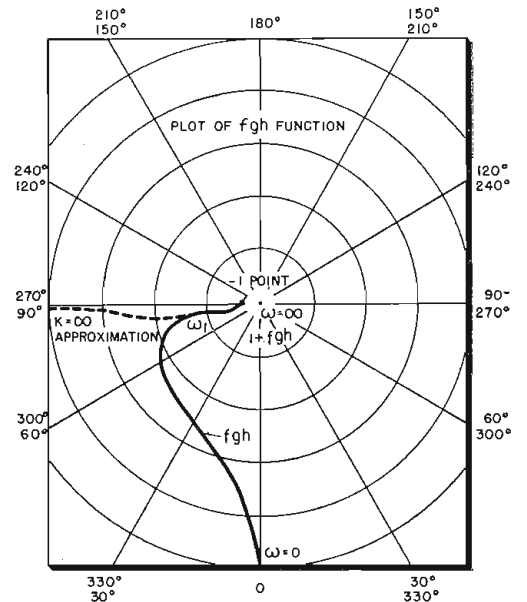

Fig. 10: Open-circuit loop characteristics
The analysis described is completely analytic, although the steady-state frequency response and error response may be determined graphically. The fgh function is plotted on polar-coordinate paper and shows the ratios of the distance from the origin to the curve and from the -1 point to the curve. These distances are used in Eq. (1) and (2). The angle between the input and the output can also be determined from this graph. Furthermore, the graph shows that the system is not critical with respect to the gain in the loop assuring stable operation under varying conditions. An approximate drawing of the fgh function is shown in Fig. 10.